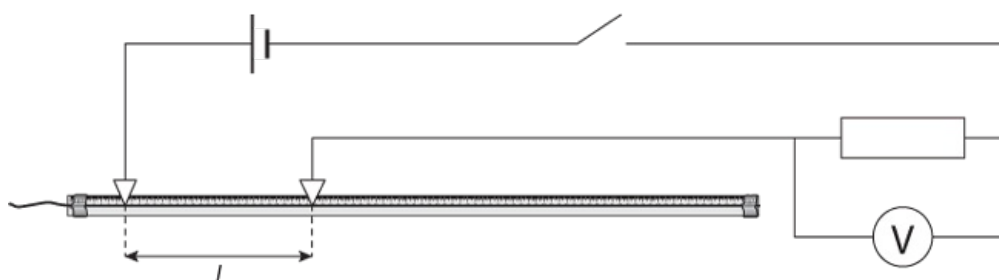

Figure 7.4: Circuit diagram with wire on metre rule.
- 2 Set up the circuit shown in Figure 7.4. The multimeter should be set in the range 0–2 V. The distance l between the crocodile clips attached to the wire should be 0.200 m.